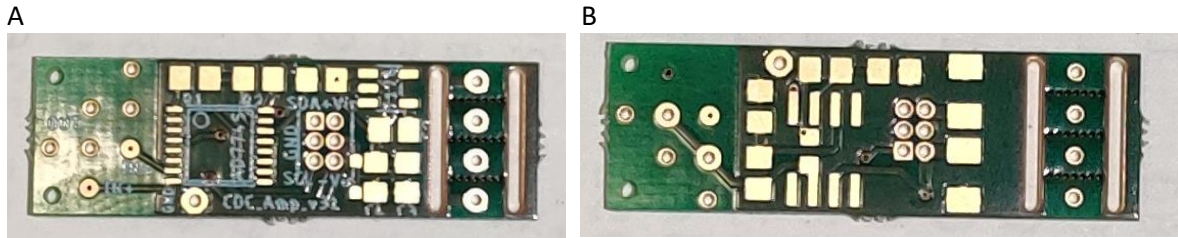
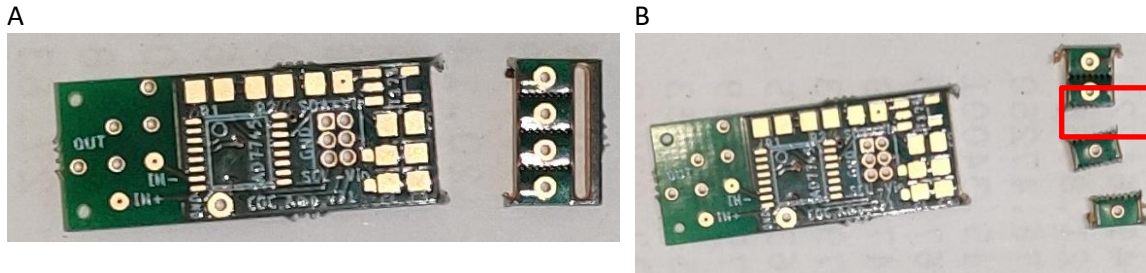

Figure 3: Images of the (A) top and (B) bottom of the entire detection head's PCB.
Figure 4: Images of the detection head circuit board with detached mini circuit boards. One of the further used mini PCBs is outlined in red.
1. Detach of the 4 mini-PCBs on the right of Figure 3 the result is shown in Figure 4.